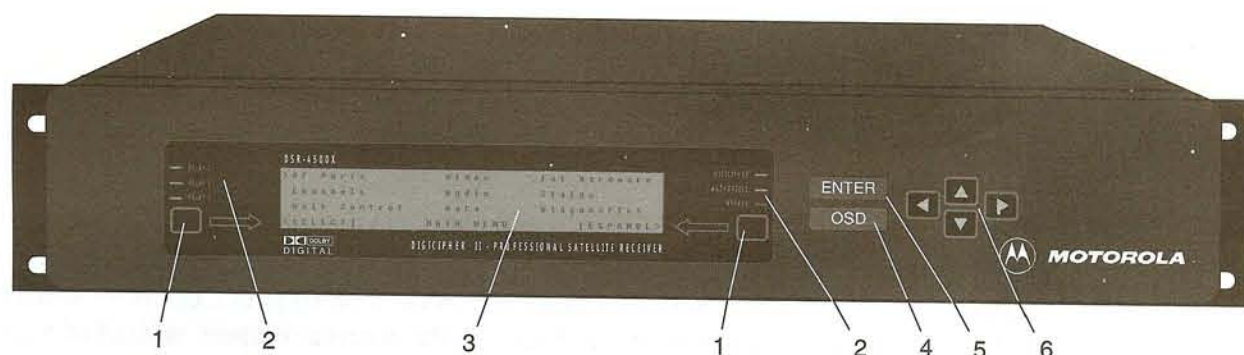

Figure 3-1: DSR-4500X Front Panel
All operations described in this chapter require using the front panel. As illustrated in Figure 3-1, the front panel has a liquid crystal display (LCD), several indicator lights (LEDs, or light-emitting diodes) and eight (8) buttons.